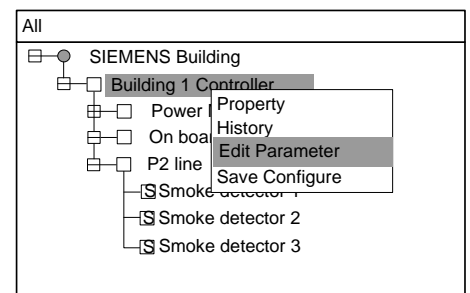
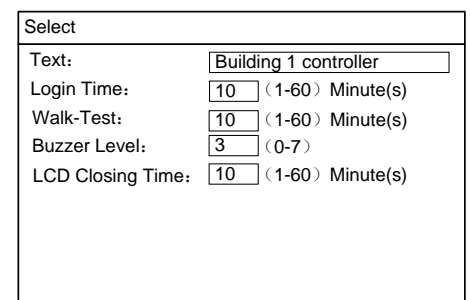

Fig.17-4
Fig.17-5
4. Press "→" to pop out the shortcut menu (Fig.17-4). Use "↓" to select "Edit Parameter" and press "OK" to enter the parameter editing interface (Fig.17-5).